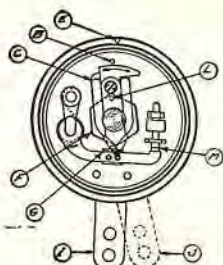

Fig. 22A
For distributors with counter-clockwise rotation: In observing Fig. 22A, from the top, the cam appears to be revolving in a clockwise rotation; however, by referring to the standard practice of determining rotation (looking from the drive end), it is seen really to be rotating counter-clockwise.
The spark-control lever (I) (Fig. 22A) connects with the lever on the steering wheel and should be in a fully retarded position after having located the